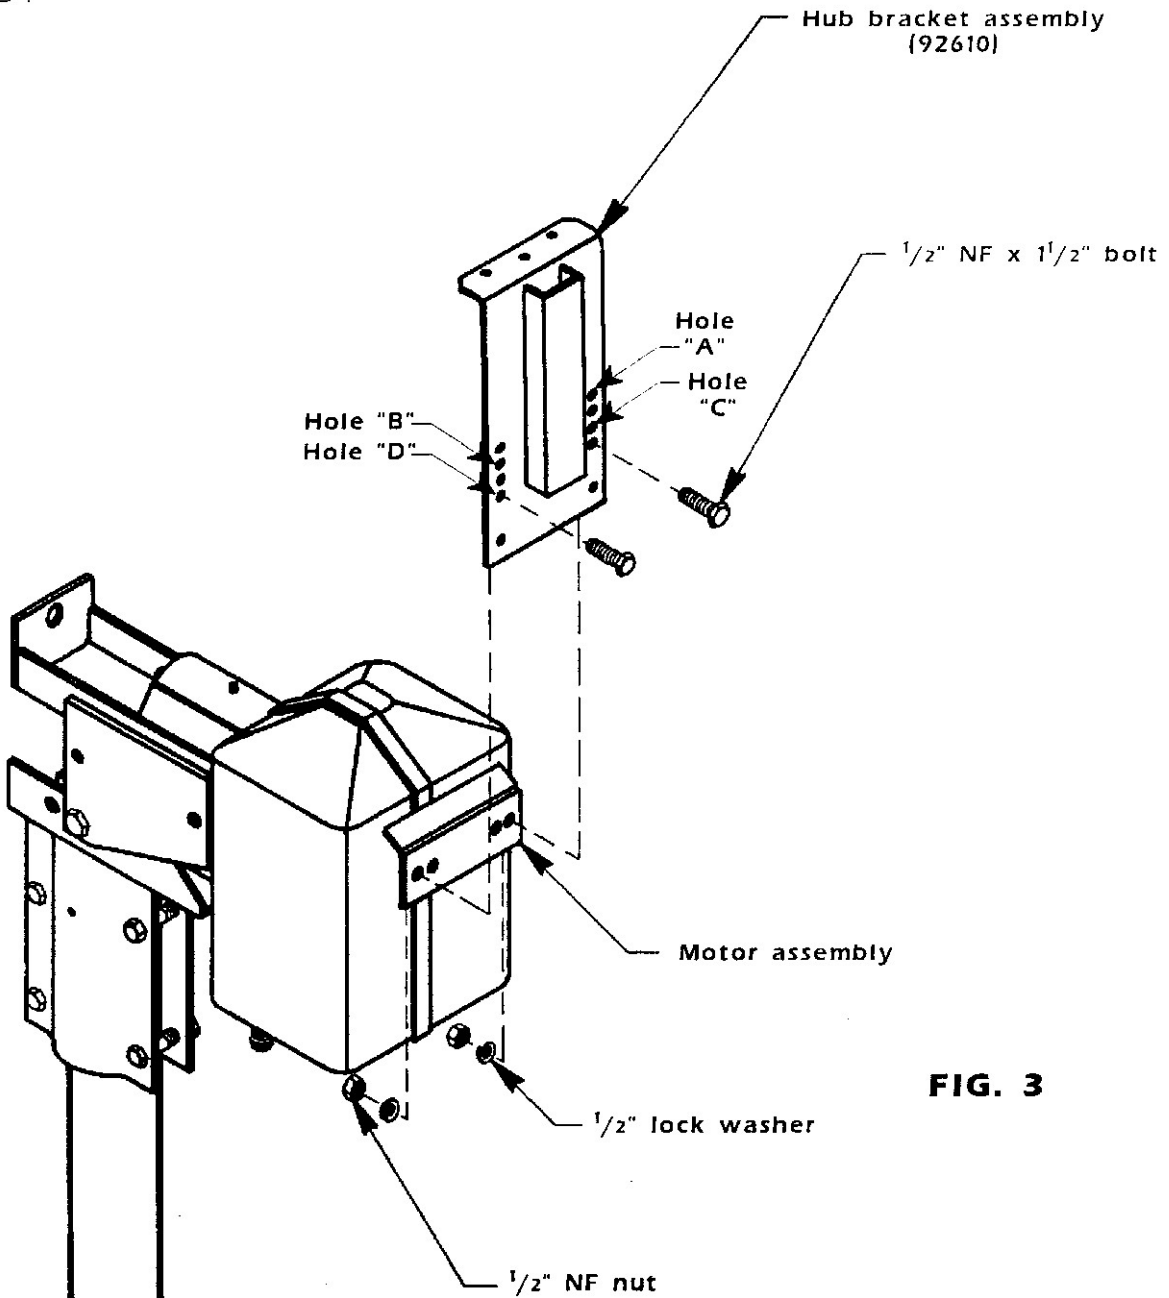

FIG. 3
1. Attach the hub bracket assembly to the motor assembly using two  $\frac{1}{2}$ " NF x  $1\frac{1}{2}$ " bolts, two  $\frac{1}{2}$ " lock washers, and two  $\frac{1}{2}$ " NF nuts. (See Fig. 3)
**NOTE:** Insert the bolts into the holes of the hub bracket assembly according to Fig. 3 and the chart at right.